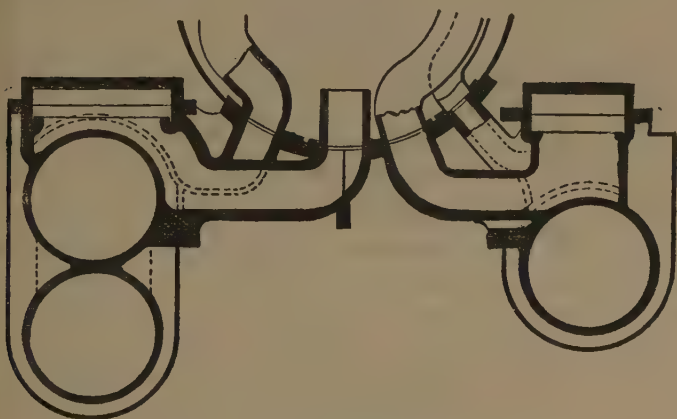

Fig. 321. Three-Cylinder Compound.
A. By having on one side one H. P. cylinder, and on the other two L. P.'s of the same diameter as the H. P., one over the other and both taking hold of the same crosshead as in Fig. 321. (Lapage type.)
A. (1) Changing the position of one link; (2) altering the link-hanger length or (3) off-setting one reverse-shaft arm.